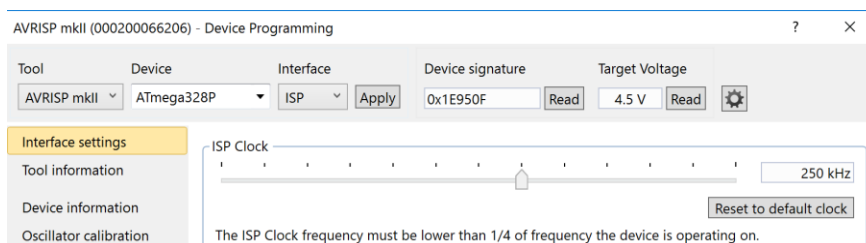

Figure 10. Read voltage and device
In this order, click on the read buttons under (1) Target Voltage and then (2) Device signature. The window should now look similar to Figure 10.